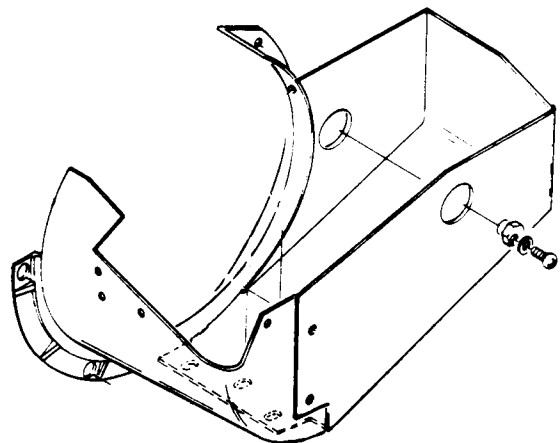

Figure 4-10
- 4) Very gradually back off the set screw, centered under the hopper bowl, counterclockwise until the microswitch clicks into the down position. The hopper is now set at the desired capacity. See Figure 4-10.